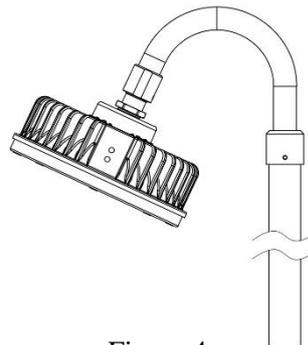

Figure 4
- ☞ The mounting types are for the use of Bending electrical tube mounting (Figure 4). Tube mounting thread is NPT 1-1/2”
- ☞ Tighten tube locking set screw to conduit 1.0 N-m.(Figures 4 and 5)